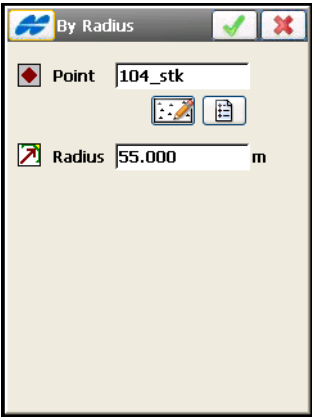

Figure 6-47. Select Points by Radius
**By Radius:** select the points included in the circle of the radius set from the selected point. The *By Radius* screen displays (Figure 6-47 on page 6-40).